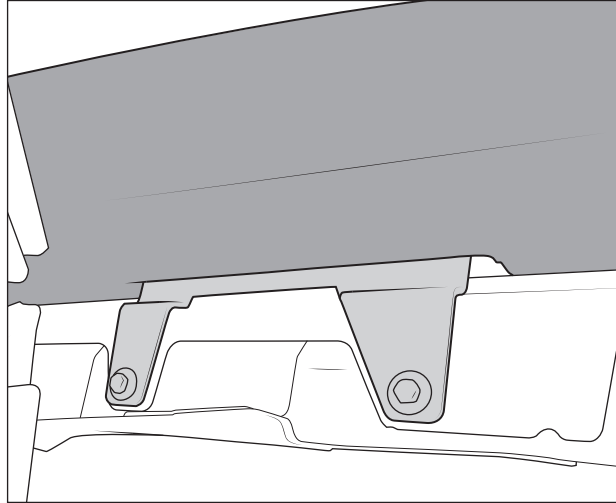

Figure 11
- Loosely install two rear fender bolts into large snorkel bracket and tighten until just snug enough to hold snorkel body in place (fig. 11).